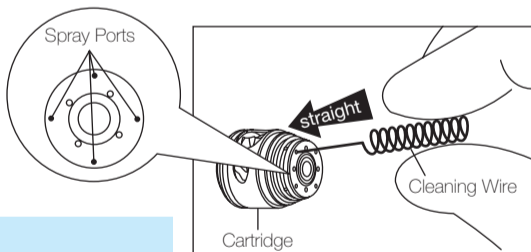

Fig. 9
- 2) Insert the Cleaning Wire straight into the Spray Port. (Fig. 9)